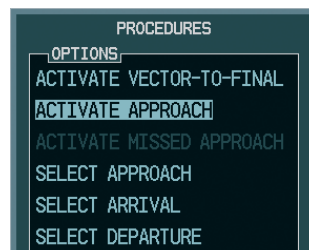

Figure 5-137 Manually Activate Approach
- Turn the large **FMS** Knob to highlight 'ACTIVATE APPROACH' as shown in Figure 5-137.